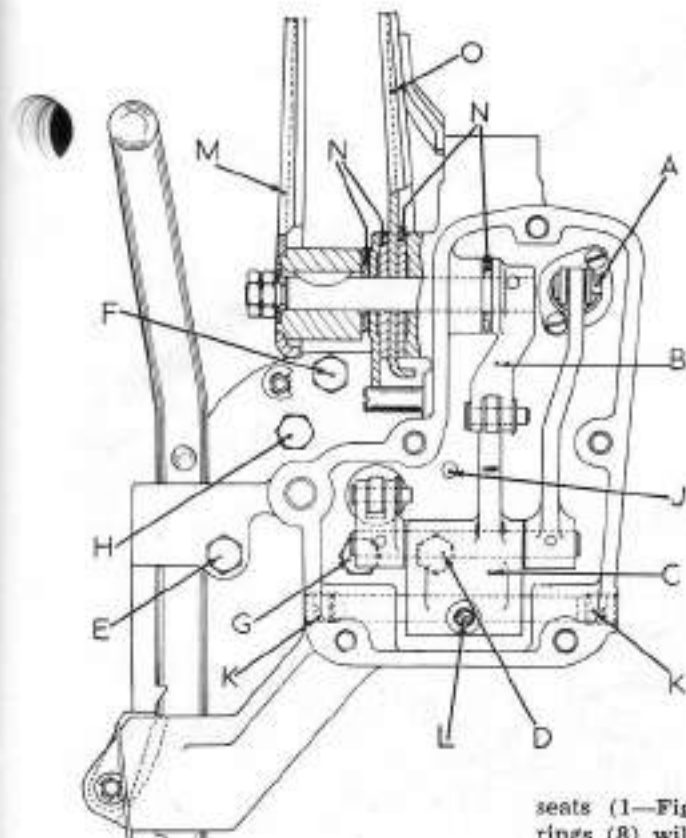

Fig. 154—View of control lever mechanism with cover removed and control lever shaft section cut-away. Refer to Fig. 156 for exploded view of mechanism.
212. R&R VALVE. Disconnect lift linkage and remove rockshaft complete with right hand housing. Remove the banjo bolt and two sealing washers connecting pressure pipe to rear of valve housing. Disconnect linkage from lower end of hand brake lever and remove the traction control valve knob. Unbolt and remove the cover from front of control housing. Note: Some oil will run out as cover is removed. Refer to Fig. 154 and remove pin (A) to disconnect flexible cable from depth control valve operating lever. Remove nuts from control lever (M) shaft and pull lever from shaft until free of woodruff key; lever (B) can then be moved forward so that floating pivot (C) will swing down to expose cap screw (D). Remove the three cap screws (D, E & F), then withdraw the complete assembly forward out of axle housing.
213. OVERHAUL. With unit removed, remove cap screws (G & H—Fig. 154) and separate valve body (see Fig. 155) from housing. Catch the ball (17—Fig. 156) and spring (18) as valve body and housing are separated.
214. OVERHAUL OPERATING LINKAGE. Disassembly and reassembly of the housing (28—Fig. 156) and linkage is obvious after examination of unit and reference to Figs. 154 and 156.
Fig. 156 — Exploded view of control lever and linkage. Late production units have an "O" ring (not shown) on traction control spindle (24) to prevent leakage of oil around spindle. "O" ring may be installed on earlier units if bore in housing (28) is chamfered 0.030-0.045 and hole in gasket (30) is enlarged to 1/2-inch. Refer also to Fig. 154.